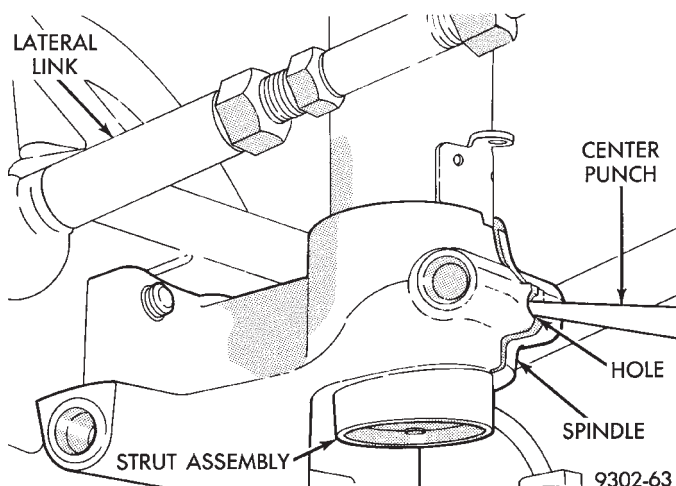

**Fig. 19 Center Punch Inserted In Spindle**
(11) Insert a center punch into the hole on the spindle (Fig. 19). Center punch must be tapped into the hole in the spindle until jammed into place. This will spread the spindle casting allowing it to be removed from strut assembly.